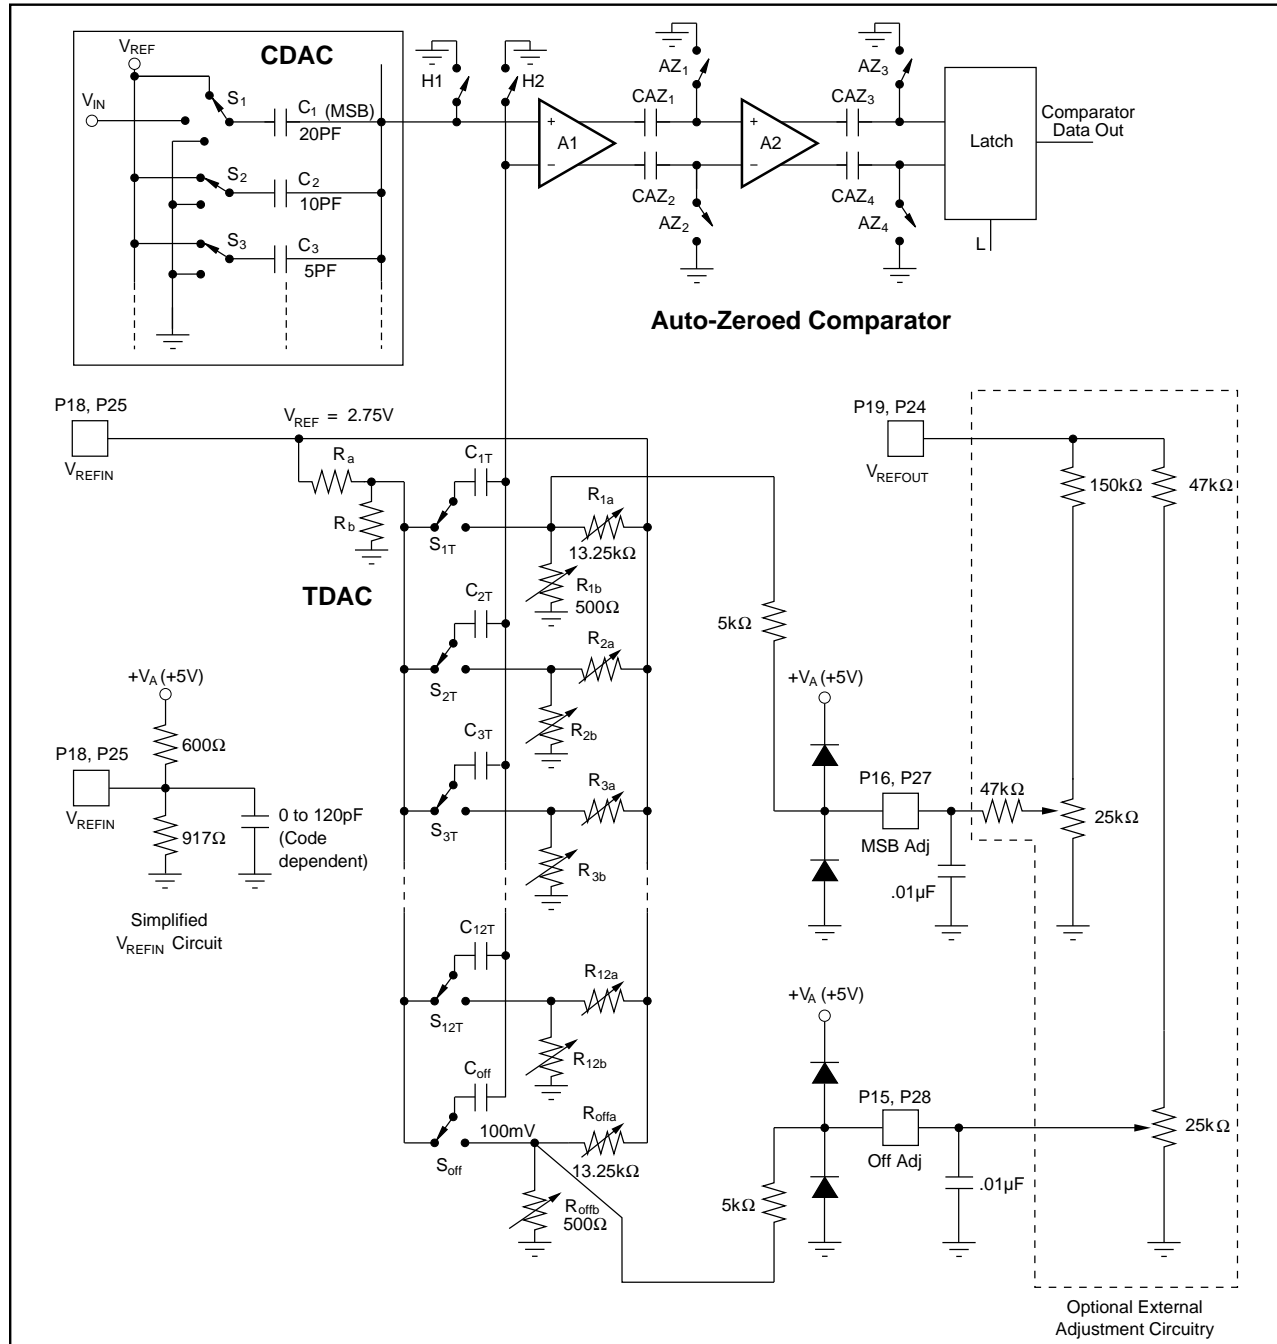
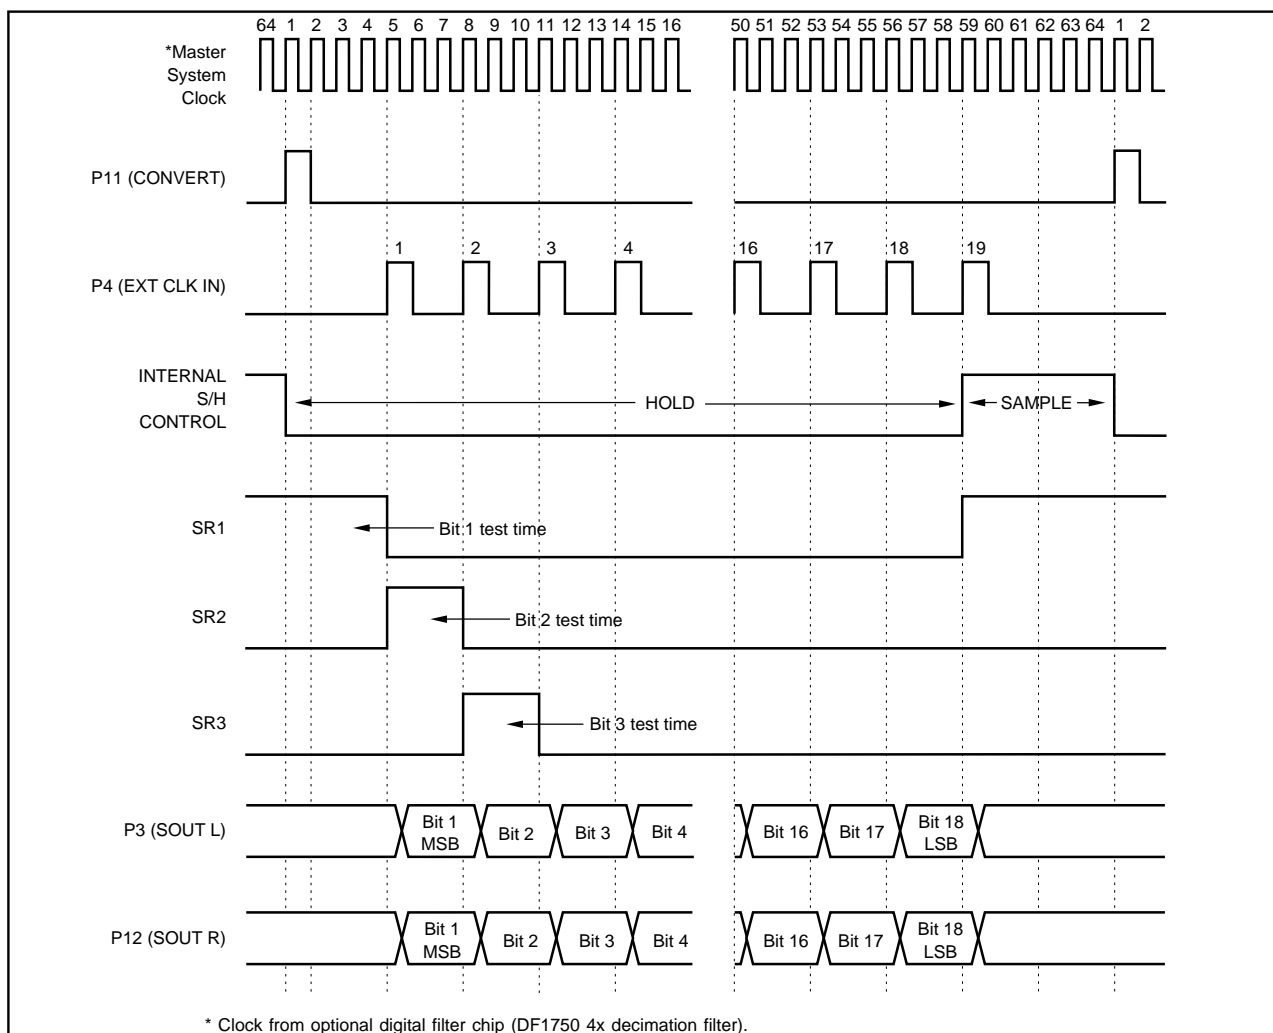

FIGURE 1. PCM1750 Simplified Circuit Diagram.
FIGURE 2. PCM1750 Input/Output Timing Diagram.
NOTES: (1) Binary Two's Complement coding. (2) The PCM1750 is tested and guaranteed at 5.2 μs , however it will operate at 4.5 μs . The dynamic performance is not guaranteed or tested at this conversion rate. (3) Ratio of $Signal_{RMS} / (Distortion_{RMS} + Noise_{RMS})$. (4) A/D converter sample frequency (4 x 48kHz; 4X oversampling per channel). (5) A/D converter input frequency (signal level). (6) Referred to input signal level. (7) Ratio of $(Distortion_{RMS} + Noise_{RMS}) / Signal_{RMS}$. (8) Externally adjustable to zero error. (9) Differential non-linearity error at bipolar major carry input code. Externally adjustable to zero error. (10) Full scale range (5.50V). (11) Refer to equivalent circuit in Figure 1. (12) Worst case operating condition. Refer to typical performance curves.
After each conversion, the dual ADC returns to the SAMPLE mode in order to track the input signals. The switches shown in the simplified circuit diagram of Figure 1 will then be in the following states: S1 connects V_{IN} to C1 ; S2 to S18 connect C2 to C18 to V_{REF} ; H1 and H2 connect the top plates of the capacitor arrays to analog common; and the latching comparator is switched into its auto-zero mode by closing AZ1 to AZ4. Notice that C1 serves two purposes: it samples and stores the input signal V_{IN} and it is the MSB of the CDAC. Storing V_{REF} on C2 to C18 creates a bipolar offset, enabling V_{IN} to cover a span from $-V_{REF}$ to $+V_{REF}$.
occurs during the SAMPLE period (see the timing diagram shown in Figure 2). These errors are stored on the AC coupling capacitors (CAZ1 to CAZ4, shown in Figure 1) between the gain stages. During the SAMPLE period the inputs to gain stages A1 and A2 and the latch are grounded by switches H1, H2, and AZ1 to AZ4. Capacitors CAZ1 and CAZ2 track the amplified offset voltage of gain stage A1 and capacitors CAZ3 and CAZ4 do the same for A2. At the beginning of a conversion cycle, the autozeroing switches open and the instantaneous amplified value of both the DC offset voltage and the low-frequency flicker noise is stored on the coupling capacitors to produce zero comparator offset during a conversion cycle.
The timing diagram in Figure 2 illustrates the successive approximation routine of the PCM1750. Control signals CONVERT and CLK are derived from a master system clock which comes from a $256f_s$ (256 X the base sampling frequency of 48kHz) clock used by the optional digital filter. There are 64 clocks shown in the timing diagram because the PCM1750 is shown operating at 4 times the standard 48kHz sample rate (192kHz).
analog common (see Figure 1). This terminates the comparator auto-zero cycle and simultaneously switches (co-phase sampling) both converters from tracking their respective input signals into the HOLD mode, thus capturing the instantaneous value of V_{IN} (with a small delay specified as the aperture time).
For example, the testing of bit-2 proceeds in the following manner. The positive pulse from the second shift register element SR2, (see Figure 2 and 4) is applied to the bit-2 data latch and NOR gate. The NOR gate in turn drives S2 and switches bit-2 at the beginning of the bit-2 test interval. Note that the bit interval must be long enough to allow both the comparator input to settle and the comparator to respond. On
Notice from the timing diagram in Figure 2 that the successive approximation algorithm operates synchronously with an external clock to minimize digitally-coupled switching noise from corrupting either the sample-to-hold operation or the critical comparator bit decisions. The two serial output data streams are derived synchronously from the respective latched comparator outputs and are available after a delay of one CLKIN cycle as illustrated in Figure 2. The serial output driver cells are TTL and CMOS compatible.
Operation of the TDAC (trim DAC), which is laser trimmed at the wafer level, is described using bit-1 as an example. Switch S1T (see Figure 1) operates between two voltage levels—a reference level set by voltage divider Ra, Rb and a laser trimmable level set by R1a, R1b. The differences of these two levels is coupled by capacitor C1T to the minus input of the comparator to generate a correction voltage for